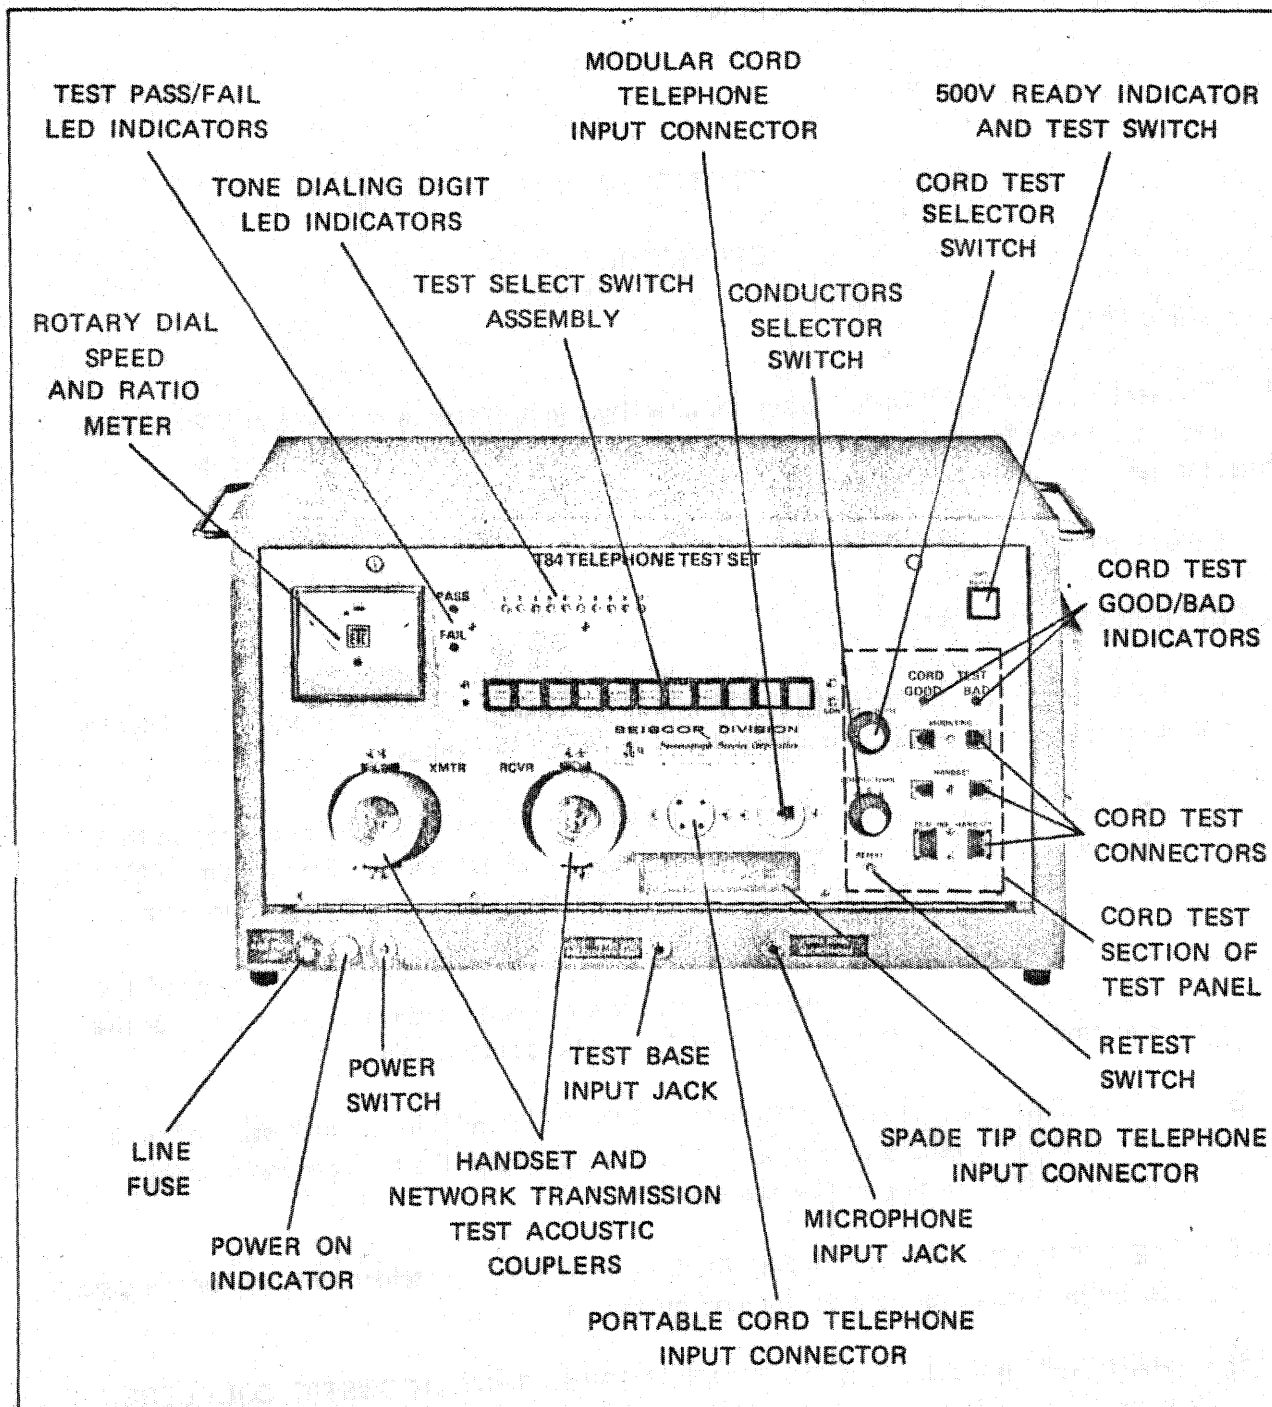

Fig. 3—Test Panel T-84 Test Set
2.01 The T-84 Test Set control panel is shown in Fig. 3. The purpose of the controls, indicators, test connectors, and acoustic couplers on the panel is as follows:
20. **Test Set KTU Cable (not visible in Figs. 3 or 4):** used to connect the test set to a TD508 or a T-8 KTU to test tone dialing telephones, or used to connect the test set to "to-be-tested" TD508 or TC1900 (or equivalent) KTU's.
4	Verify that all eleven of the test switches of TEST SELECT SWITCH ASSEMBLY (refer to Fig. 3) of the T-84 (or T-84R) Test Set are in the full "out" position. NOTE: Slightly depress any released switch (other than 500V BRKN or TIP PTY switch) to release a depressed switch. The TIP PTY switch is released by fully depressing this switch then releasing it.